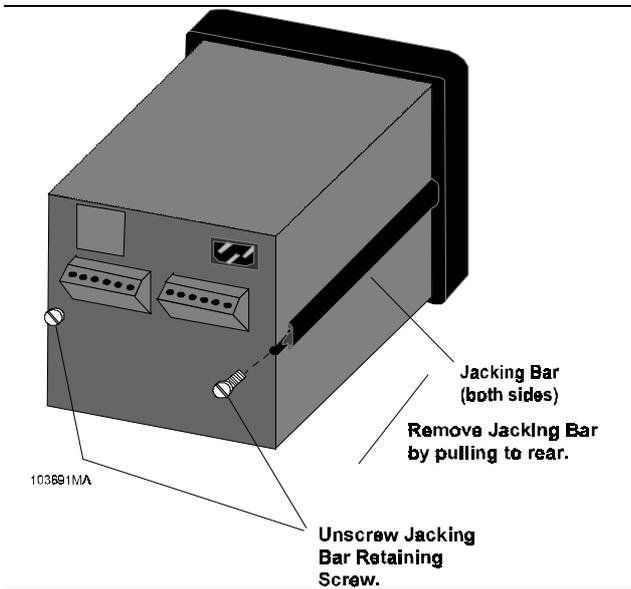

Figure 2-2 Removal of Jacking Bars
D. Remove the two screws on the rear panel holding the jacking bars in place, and remove the jacking bars by pulling to the rear. Refer to Figure 2-2.